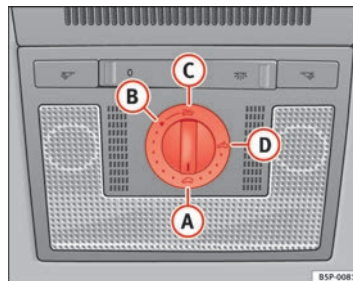

Fig. 70 Roof lining description: sliding/tilting sunroof rotary knob ▶
- Turn the rotary button to position **A** ⇒ fig. 70 ⇒ **A**.